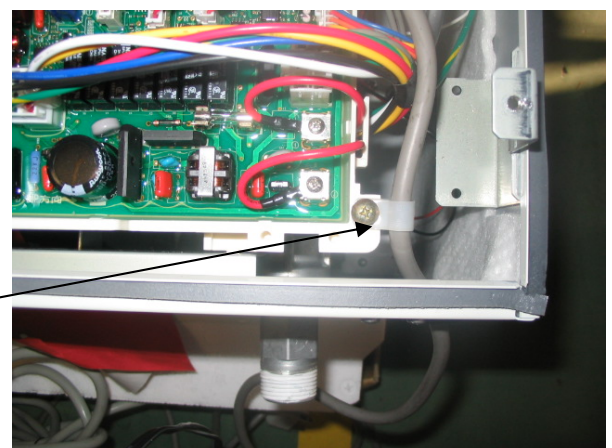

Figure 5
5. Fix communication cable with clamp and one screw as shown in figure 5.